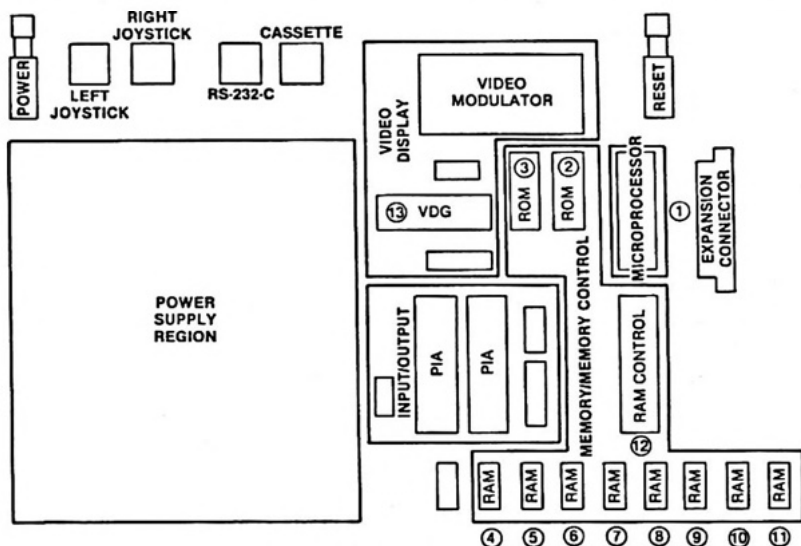

Figure 1-2
A block diagram of the Color Computer circuit with numbered references is provided in Fig. 1-2. Aside from the power supply, the circuit can be functionally divided into four major sections, as indicated
by the dark outlines in Fig. 1-2—the *microprocessor*, *memory* and *memory control*, *video display*, and *input/output* (or *I/O*). At the heart of each section is one or more LSI device. Let us take a brief look at each major section in preparation for more detailed discussions later.
The brain of the entire system is the Motorola 6809E microprocessor, or central processing unit (CPU). (Refer to item ① in Fig. 1-2.) The 6809E is an 8-bit microprocessor, meaning that data is transferred between the 6809E and its memory and peripheral devices eight bits at a time.
If your system uses standard Color BASIC, you were provided one ROM device that contains the Color BASIC interpreter. (Refer to item ② in Fig. 1-2.) If your system uses *Extended Color BASIC*, a second ROM device was added to provide the additional Extended Color BASIC commands. (Refer to item ③ in Fig. 1-2.) Each ROM is an 8K device, meaning that it contains 8192 bytes of program information ($K = 1024$).
Your system also contains a certain amount of read/write memory, or RAM, shown in Fig. 1-2 as items ④ through ⑪.
The TRS-80® Color Computer uses *dynamic* RAM. This type of RAM must be refreshed periodically to retain its information. The refreshing task is controlled by a dynamic RAM refresh controller, labeled as item ⑫ in Fig. 1-2. The refresh controller relieves the microprocessor of the RAM refresh task. You have probably already discovered that any information stored in RAM is lost when power is removed from the computer. This is because all RAM is *volatile*.
Your TV display is the major peripheral output device of the Color Computer. The heart of the computer video display circuit is the *6847 video display generator*, or VDG. (Refer to item ⑬ in Fig. 1-2.) The VDG controls all the TV display operations. To output alphanumeric information to a TV, the CPU will *write* the information to be displayed into a 512-byte block of RAM. This section of RAM is called the *text screen memory* and is located in the memory map between RAM